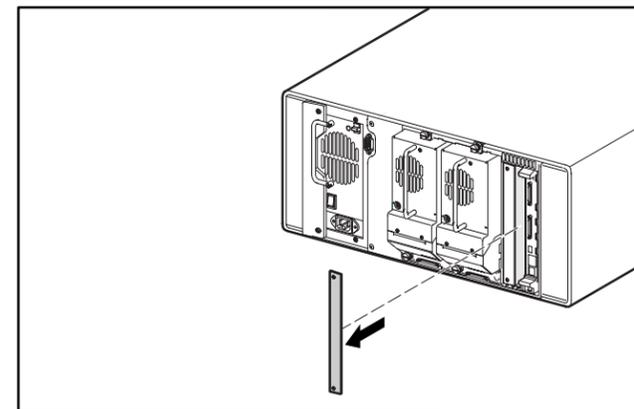

Figure 2: Removing the center option slot cover (MSL5026)
2. Using a #1 Phillips screwdriver, remove the center option slot cover plate. See Figure 2.